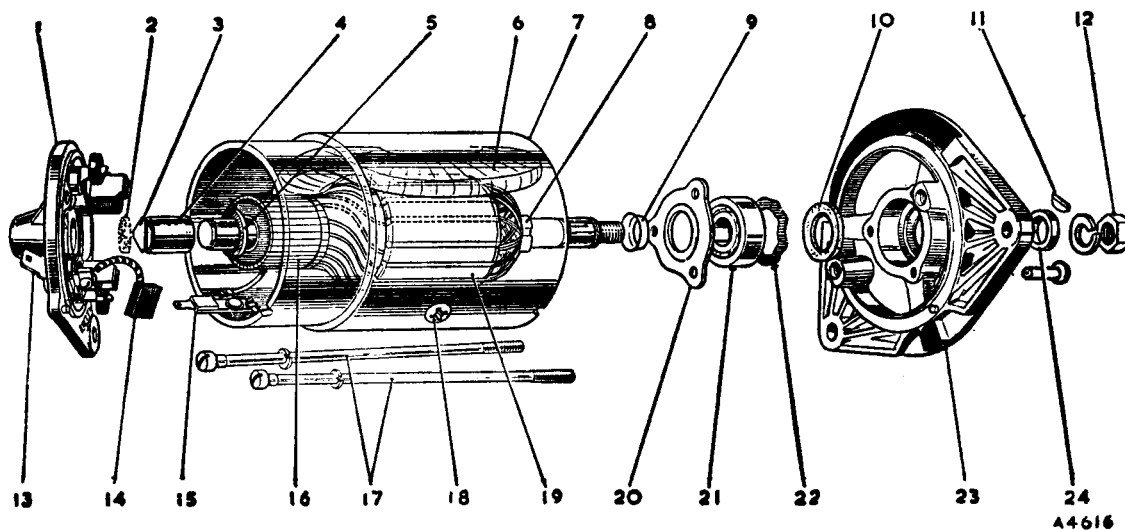

Fig. N.1
12. Withdraw the pole-shoe securing screws (Fig. N.1), draw the shoes and coils from the yoke and remove the coils from the shoes.
13. Fit new coils to the shoes and refit them to the yoke with the shoes in their original positions. Refit the insulating piece at the junction of the coil windings, insert the screws, press the shoes in place with an expander, and tighten the screws (Fig. N.1).